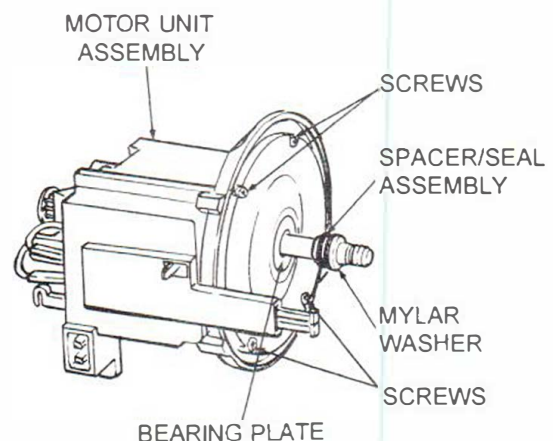

Figure 25. Spacer/Seal Assembly
2. See Figure 25. Install spacer/seal assembly with flat side of seal toward spacer shoulder and tapered side of seal toward bearing plate.
- C. See Figure 25. Remove four bearing plate screws and nuts from motor unit assembly.
2. *See Figure 25.* Install spacer/seal assembly with flat side of seal toward spacer shoulder and tapered side of seal toward bearing plate.